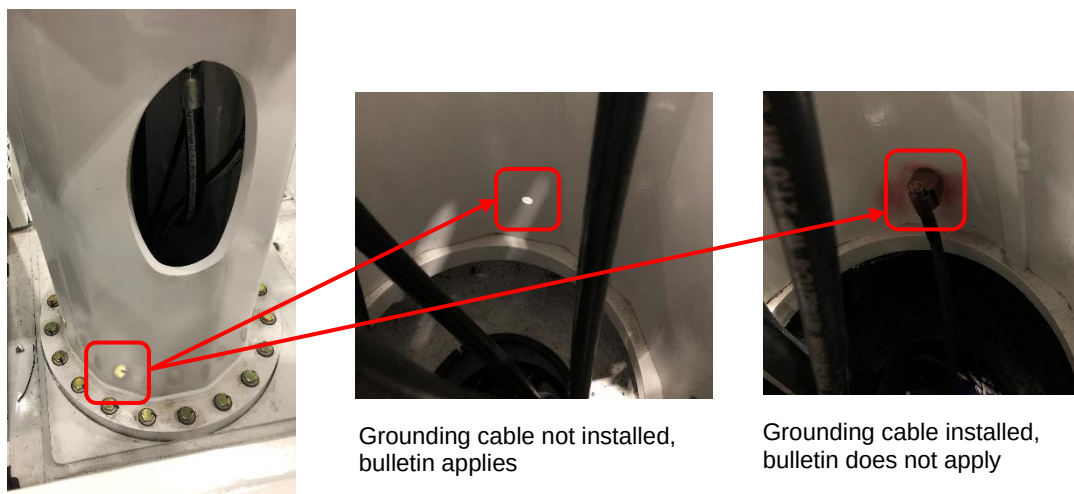

Figure 1. Area of Pedestal to Inspect for Grounding Cable
1. Inspect the pedestal side wall to determine if a grounding cable is installed, using Figure 1 for reference.